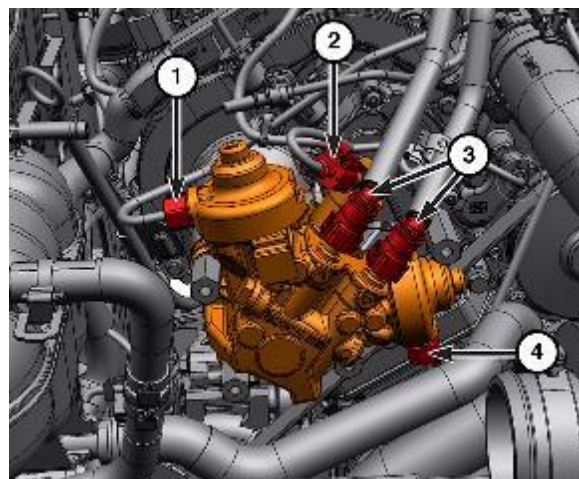

Figure 23 – HPFP Connections
25. Disconnect the low-pressure fuel supply lines (3) (Figure 23).
26. Disconnect the fuel quantity solenoid wire harness connector (2) (Figure 23).